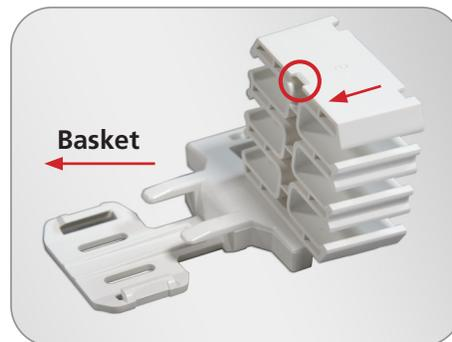

Figure 22 – Tapered End Pointing Toward Basket
- B. **For Mesh Around Basket to Tray** – Insert Housing onto Basket Tab with the tapered end pointing toward the Basket as shown (Figure 22). The one indentation (circled) pointing toward basket allows retention from sheath to basket. Then, from the sheath, wrap mesh tubes around basket and then up to the tray.